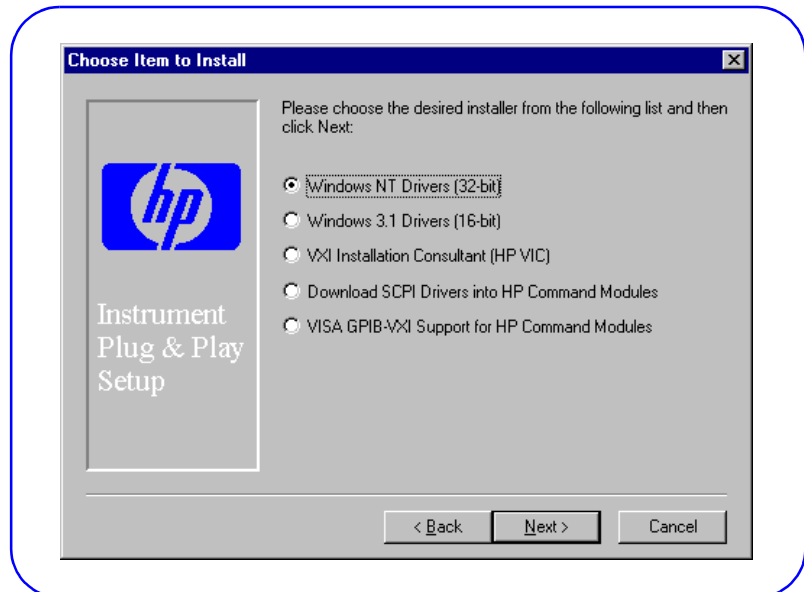

Figure 25. Choose Item to Install Screen
- 4 Select *INSTALL DRIVERS* and choose whether or not to view the README.TXT file. Click *No* to display the **Choose Item to Install** screen (see Figure 25).